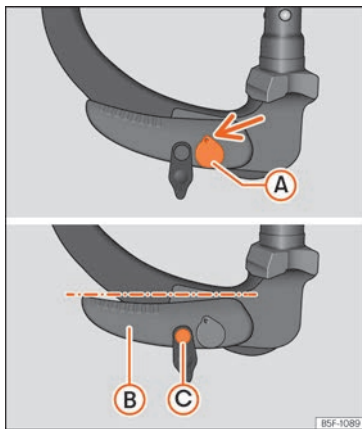

Fig. 254 Reserve position: position of the lever and the release bolt.
- Key (A) » Fig. 254 is in the released position (the part of the key with the holes is facing upwards).
- Lever (B) » Fig. 254 is in the bottom position.
- The release bolt (C) » Fig. 254 can be moved.